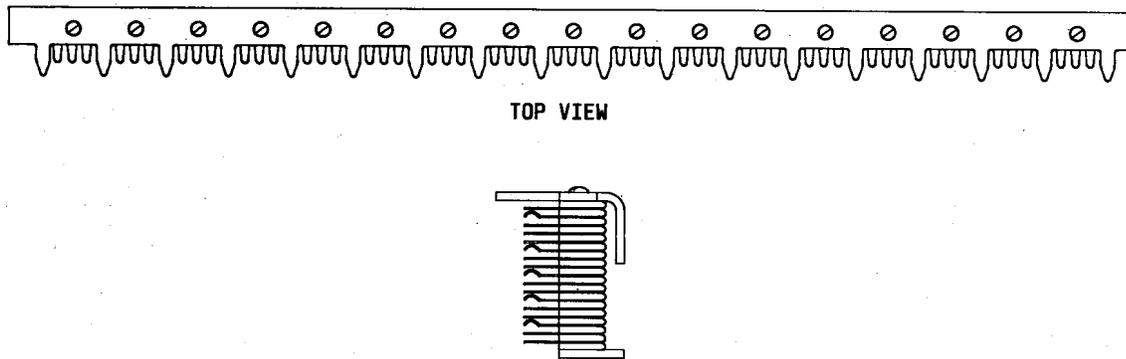

Fig. 10—204A or B Connector
**2.03 204A and B:** The 204A and B connectors (Fig. 10) consist of strips of contacts assembled between insulators to form 16 banks of contacts and 1 bank of soldering lugs. Each bank of contacts consists of three vertical rows of five contacts each, to accommodate a 348A plug. These connectors are provided with an electrostatic shield between contact strips three and four.